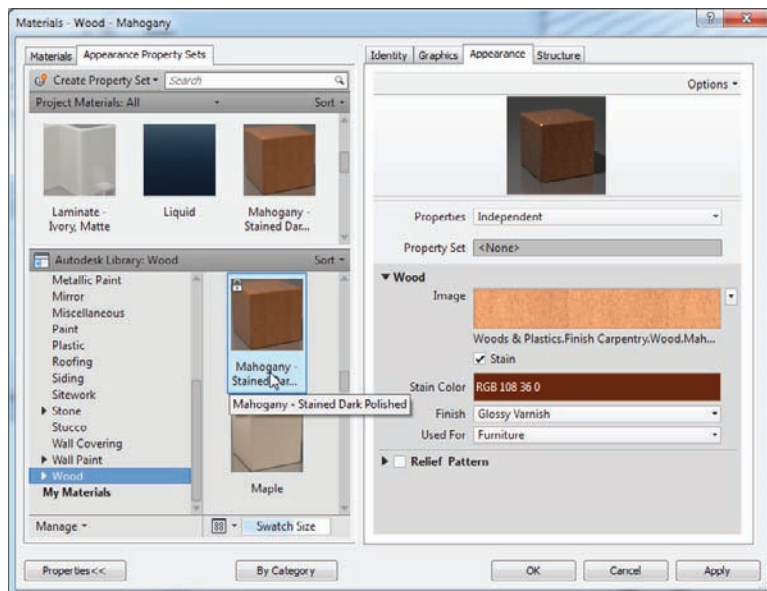

FIGURE 9.32 Making mahogany
13. Find the Wood category, as shown in Figure 9.32.
14. Choose Mahogany - Stained Dark Polished, as shown in Figure 9.32.